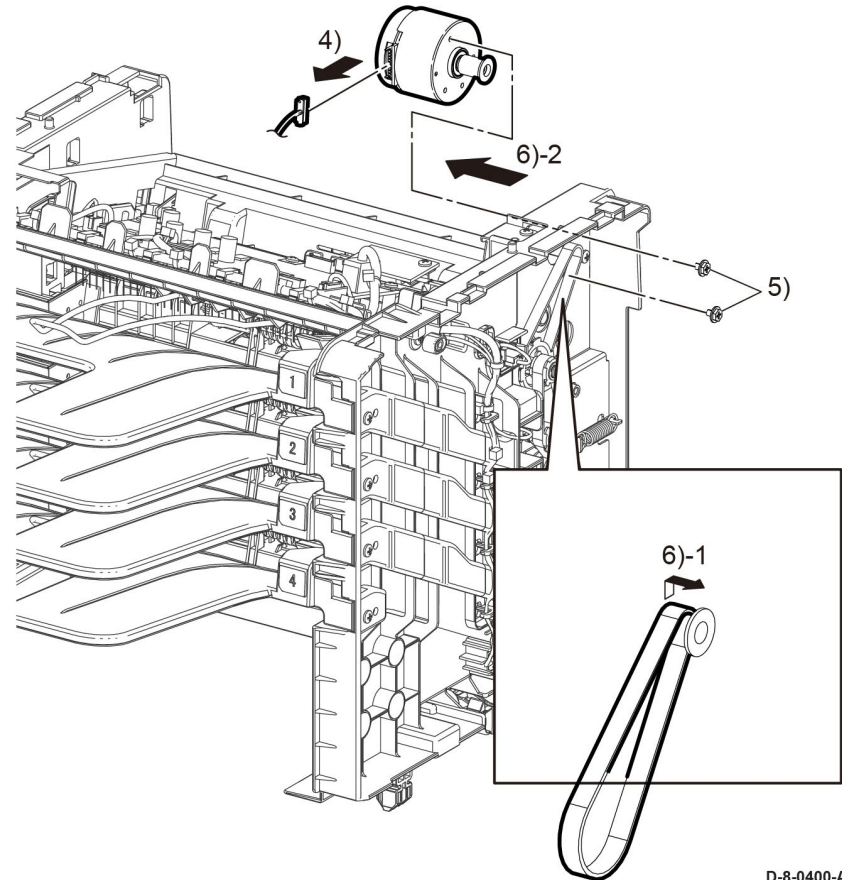

Figure 1 Motor assembly removal
6. Remove the items that follow, Figure 1: